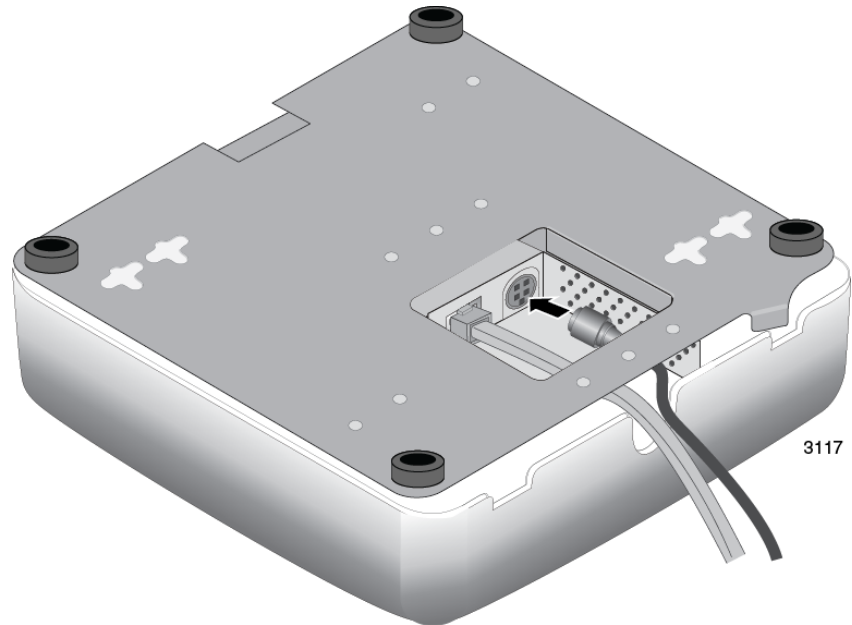

Figure 5. Connecting the Power Cable from the AT-TQ0091 AC/DC Adapter
6. Route the DC power cable from the AT-TQ0091 AC/DC Power Adapter through the notch in the cover and under the bottom panel, and connect it to the DC-IN connector on the access point. Refer to Figure 5 on page 31.